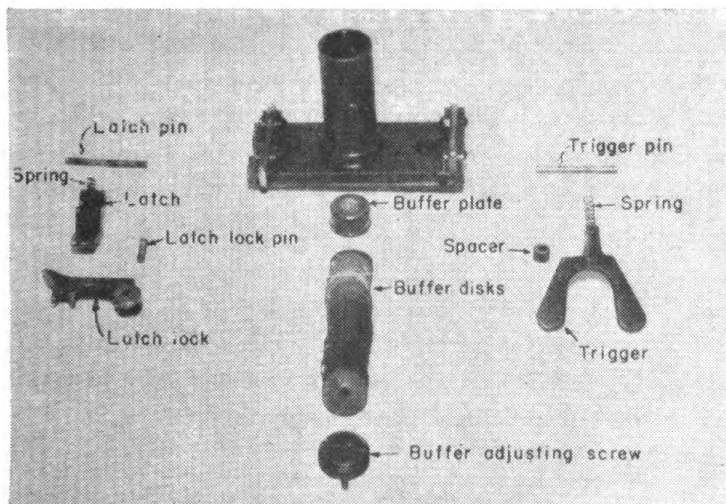
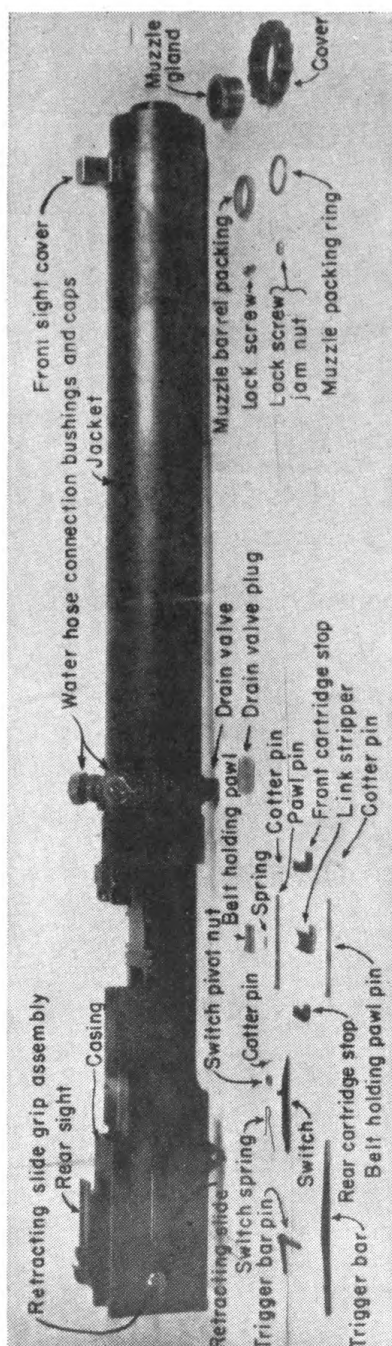

FIGURE 42.—Backplate group.
FIGURE 43. Casing and water jacket group.
Q. Identify the component parts of the backplate group. A. See figure 42.
Q. Identify the component parts of the casing and water jacket group. A. See figure 43.
Q. Explain the disassembly of the backplate group. *A.* See figure 42.
(1) Drive out the backplate latch pin and remove the backplate latch and backplate latch spring, taking care that the spring does not fly out when the latch is removed. Drive out the latch lock pin and remove the latch lock, latch lock spacers, and latch lock spring. Drive out the trigger pin, being careful that the trigger spring does not fly out upon removal of the trigger.
(2) The adjusting screw, buffer disks, and buffer plate are not removed except for repair or adjustment. If it is necessary to remove these parts, unscrew the adjusting screw and remove the adjusting screw plunger and the adjusting screw plunger spring. Remove the buffer disks and the buffer plate through the rear end of the buffer tube.
(3) When the backplate group is fully assembled, the adjusting screw must always be kept screwed tight against the buffer disks. If the top of the adjusting screw becomes flush with the end of the buffer tube when screwed tight, remove the adjusting screw and add one or more buffer disks.
Q. Explain how to disassemble the casing and water jacket group. *A.* See figure 43.
(1) To remove the side-plate trigger assembly from the casing, withdraw the cotter pin from the side-plate trigger bolt and unscrew the side-plate trigger nut. To disassemble the assembly, unscrew the side-plate trigger extension screw, lift off the side-plate trigger extension, and remove the side-plate trigger slide spring. Push the side-plate trigger slide out of its guides in the housing. Swing the side-plate trigger cam upward and lift out the side-plate trigger spring. The side-plate trigger cam can be removed by driving out the side-plate trigger pin, but this is not done unless necessary for replacement of the cam.
(2) To remove the retracting slide assembly from the casing, pull out the locking wires and unscrew the retracting slide bracket screws. To disassemble the assembly, withdraw the cotter pin from the retracting slide bracket bolt, unscrew the retracting slide nut, and remove the bolt from the retracting slide bracket. Withdraw the cotter